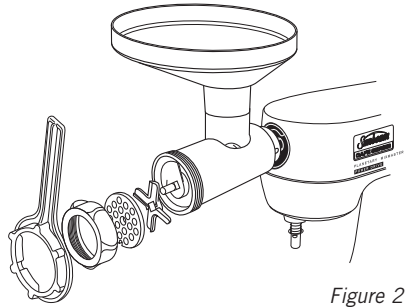

Figure 2
7. Once the Multi-Food Grinder attachment is in place, tighten the fastening dial using the spanner to ensure all elements are securely in place. See figure 2.
8. Place the food catcher underneath the fastening dial for mince collection and the feeder tray on top of the Multi-Food Grinder chute. See figure 2. Turn the speed dial clockwise to commencing grinding. Operate at speeds no greater than 7. Refer to the mixer manual for further operating instructions.